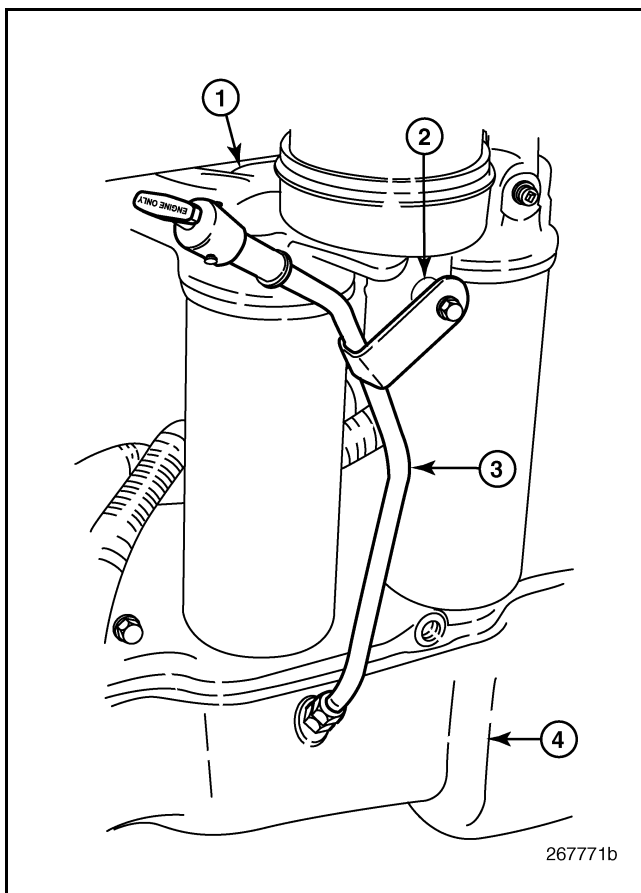

Figure 443 — Dipstick, Left-Side Installation
3. Insert the dipstick tube into the guide tube and attach the tube to the oil filter pedestal bracket with the capscrew. Locate the isolator between the tube bracket and oil filter pedestal, as shown in Figure 443.